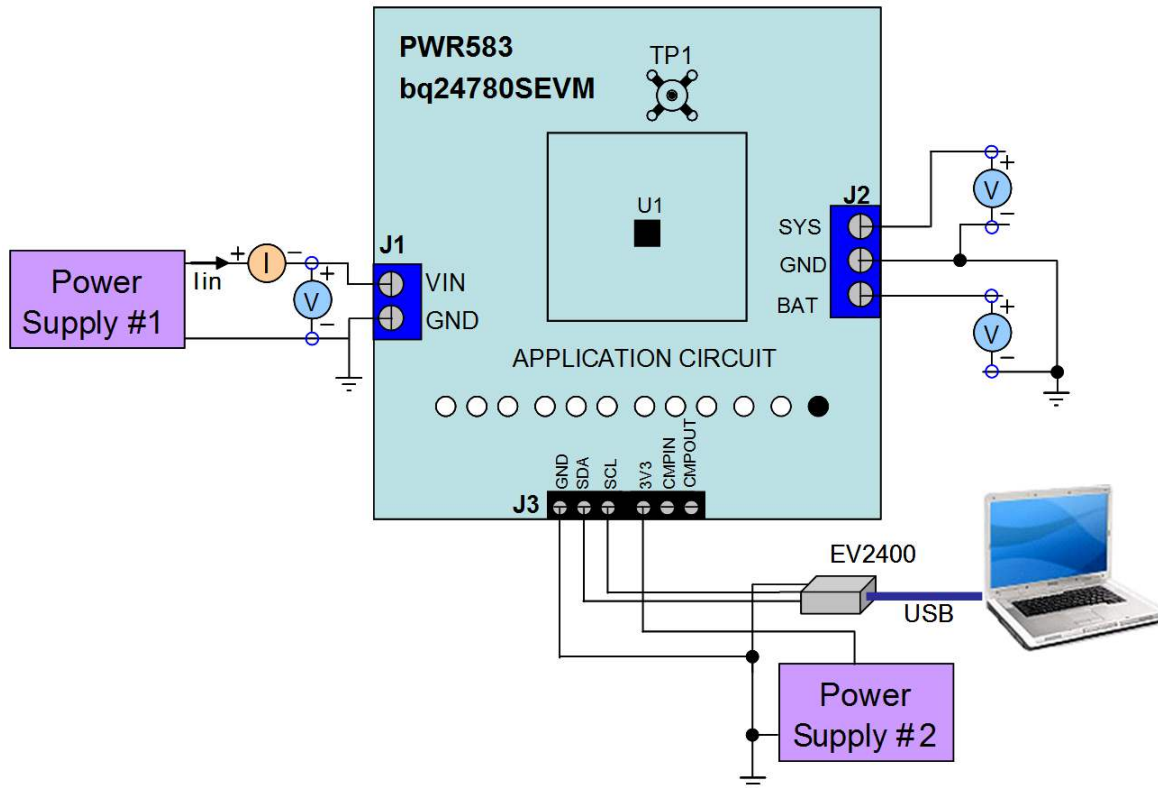

Figure 2. Original Test Setup for PWR583 (bq24780S EVM)
- Connect J3 (SDA, SCL) and J3 (GND) to the EV2400 kit *SMB* port. Refer to Table 4 for EVM connections. Connect the USB port of the EV2400 kit to the USB port of the computer. The connections are shown in Figure 2.
After completing the previous steps, the test setup for PWR583 appears as shown in Figure 2.